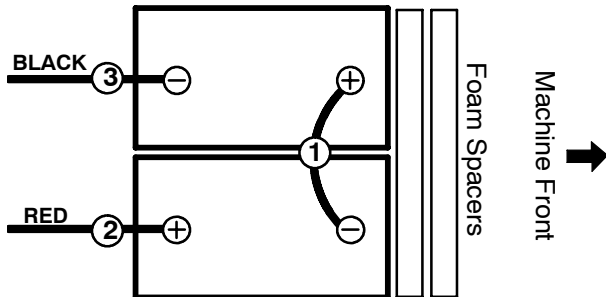

FIG. 2
- Carefully install the batteries into the battery compartment tray and arrange the battery posts as shown (Figure 2). Insert the two foam spacers in front of the batteries as shown.
- Connect the cables to the battery posts in numerical order as labeled (Figure 2), RED TO POSITIVE (+) & BLACK TO NEGATIVE (-).